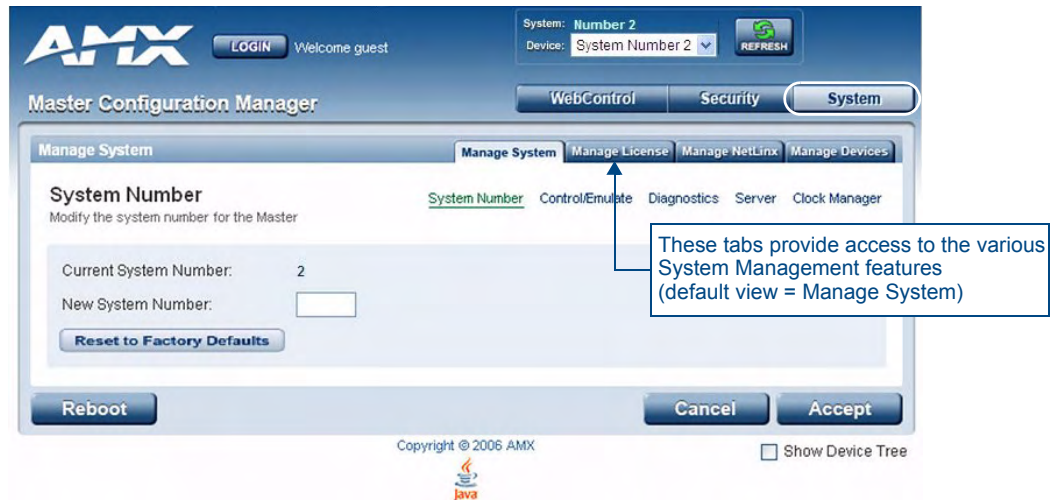

FIG. 51 Manage System (System Number)
4. Click **System** at the top of the page. The default view for the System option is the *Manage System* tab (FIG. 51).